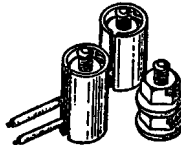

FIGURE 2. Binding Post Insulator
- 2.02 For special service lines which end in terminals not suited to use of binding post caps, the binding post insulator is provided. It is a phenol fiber sleeve, slotted lengthwise. See Figure 2.